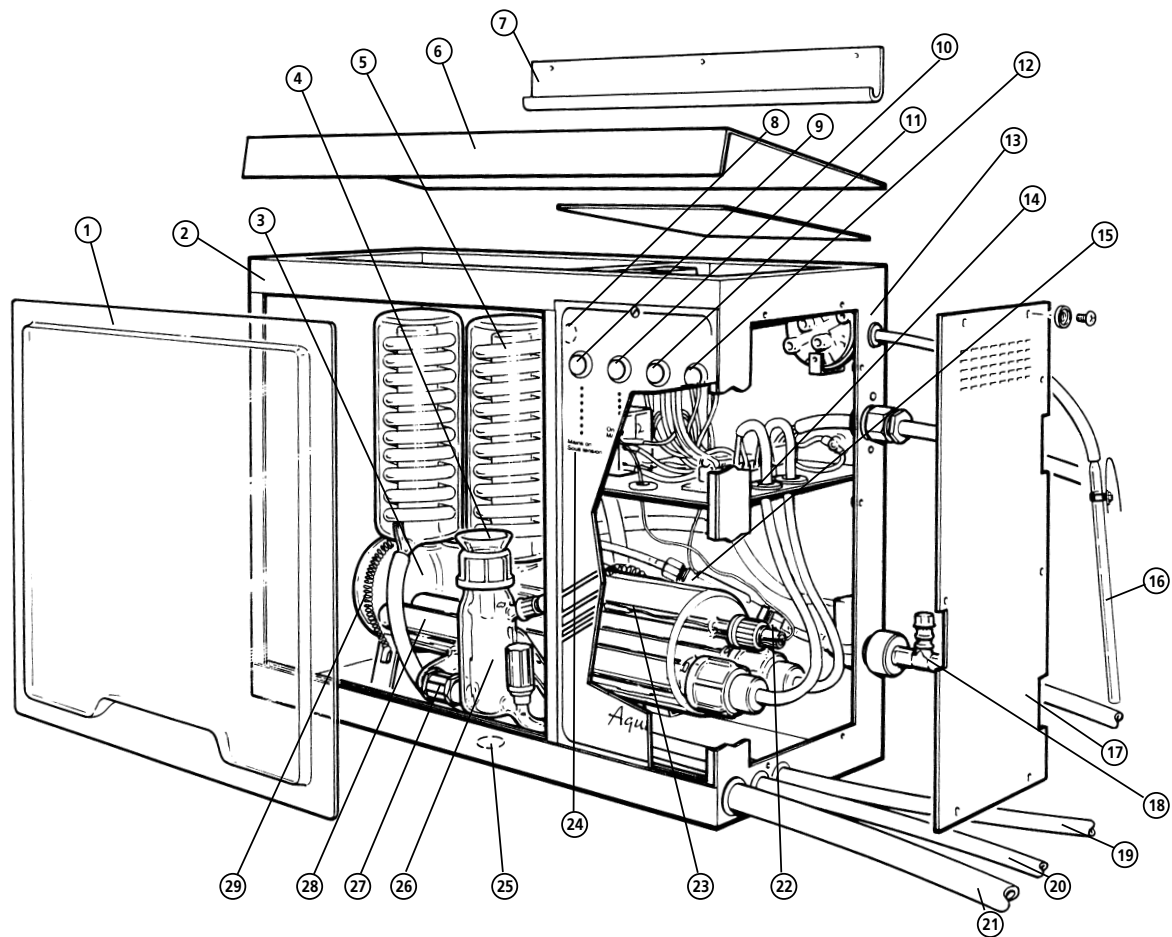

Fig 4: Major component parts A8000
Your Aquatron A8000 has been designed with ease of assembly specifically in mind, but before commencing assembly please study the illustration, fig. 4 on page 6 to familiarise yourself with the general layout. During assembly, follow the sequence of instructions and do not connect the mains electricity supply until directed.
- 3 Remove the perspex viewing screen, item 1 fig. 4 by using the finger recess to lift the screen out of the lower cabinet groove, then remove the internal packaging which has protected the glass boiler during transit. Also sever the temporary tie holding the two boiler retaining springs, item 29 in place.
- 4 Remove the cabinet end plate, item 17 by unscrewing the six retaining screws and 'shake proof washers'. Similarly, unscrew the six countersunk screws to remove the cabinet roof.
- 19 Connect the cold water supply to connection 18 fig. 4. Note the tubing selected should have a safe working pressure of at least equal to the pressure of the water supply and should be adequately secured by hose clips.
- the dummy shorting plug is fitted to socket item 8, fig. 4.